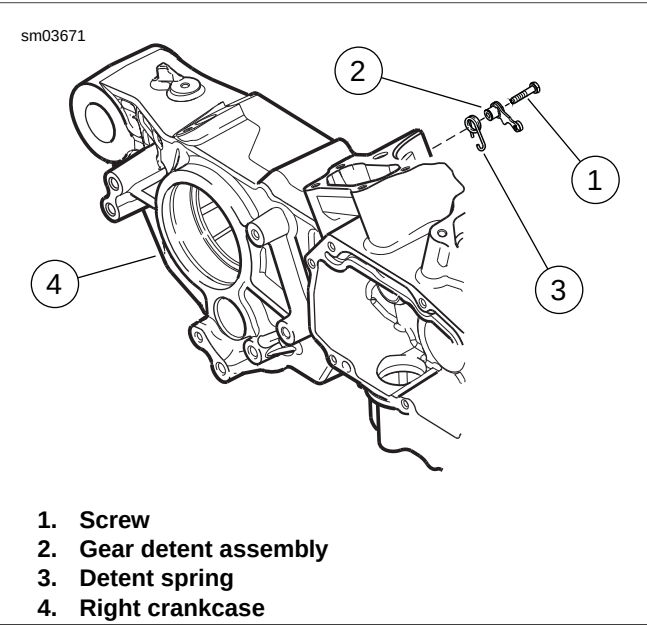

Figure 5-94. Gear Detent Assembly
1. See Figure 5-94. Assemble detent spring (3) onto gear detent assembly (2). Install detent assembly with spring into place in transmission cavity of right crankcase (4). Secure with screw (1). Tighten to 90-110 in-lbs (10.2-12.4 Nm).